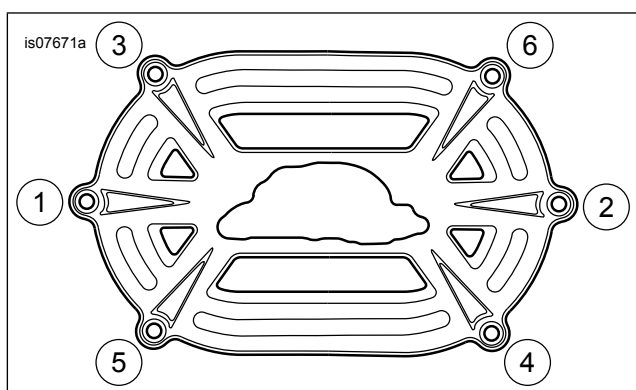
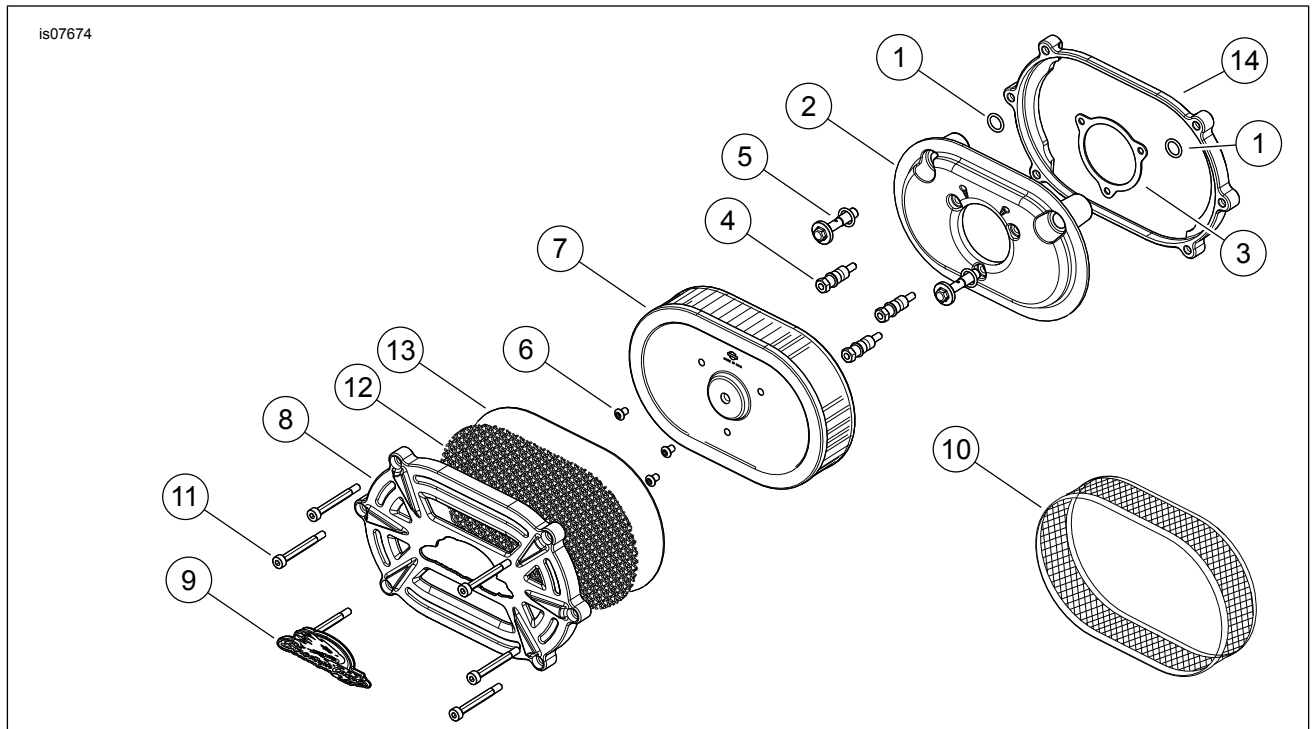

Figure 2. Fastener Tightening Sequence
Figure 4. Service Parts, Screamin' Eagle Extreme Billet Ventilator Performance Air Cleaner Kit
See Figure 4 and Table 1.
1. See Figure 4. Install two O-rings (1) from the kit in the grooves around the breather bolt holes on the induction module side of the backplate assembly (2). Install the remaining two O-rings in the grooves in the underside of the heads of the breather bolts (5).
2. Remove the liner from the adhesive backing of the gasket (3). Position the adhesive side of the gasket to the backplate, aligning to the equally spaced screw holes. Press the gasket firmly into place.
3. Insert new breather bolts (5) through the backplate.
- Apply Loctite 243 - Blue to the breather bolt threads and the mating tapped holes in the cylinder head. Position rear cover (14) back cover over backplate (2).
- Install the air cleaner mounting studs (4) all the way through the backplate (2) until the screw threads are captured in the induction module. Leave fasteners loose.
- Tighten the three air cleaner studs (4) to 6.2–6.8 N·m (55–60 in-lbs).
- Alternately tighten the two breather bolts (5) to 13.6–16.3 N·m (120–144 in-lbs).
- See Figure 4. Secure the air filter element (7) to the air cleaner mounting studs (4) using three bright-finish TORX® screws (6) from the kit. Tighten the screws to 6.2–6.8 N·m (55–60 in-lbs).
- Remove the liner from the adhesive backing of the air cleaner emblem (9). Carefully position the adhesive side of the emblem to the front cover (8). Press the emblem firmly into place.
- Assemble wire mesh (12) and filler plate (13) to front cover.
- Apply Loctite 243 - Blue to all cover screws (11) and mating tapped holes in back cover (14).
- See Figure 2. Install front cover plate with wire mesh and mesh filler plate using 1/4-20x2.5 in screws provided. Alternate tightening in a star pattern until all six fasteners are snug. Then one-half turn (180 degree) each in same pattern to avoid crushing the element. If necessary, another one-quarter turn (90 degree) but no more.